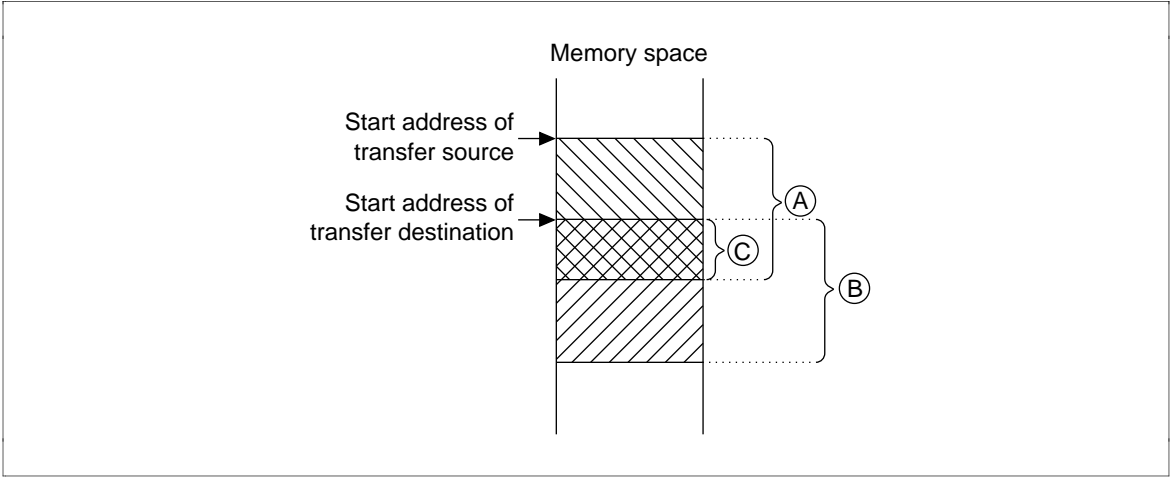

Figure 4.4 Block Transfer with Overlapping Data
- Set the input arguments so that the block data of the transfer source (area (A) of figure 4.4) and the block data of the transfer destination (area (B) of the figure) do not overlap.
- When the transfer source and transfer destination overlap as shown in figure 4.4, the data of the transfer source that overlaps (area (C) in the figure) is destroyed.